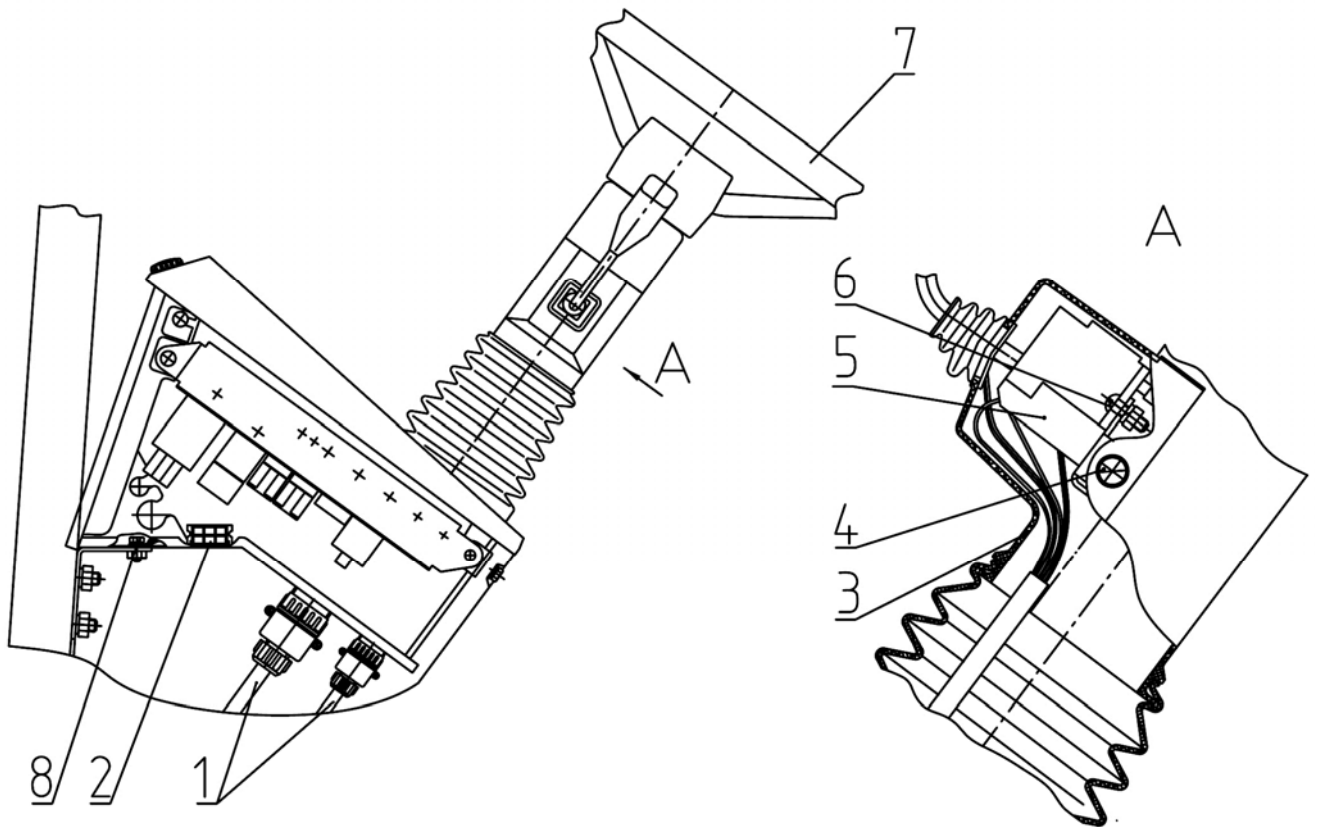
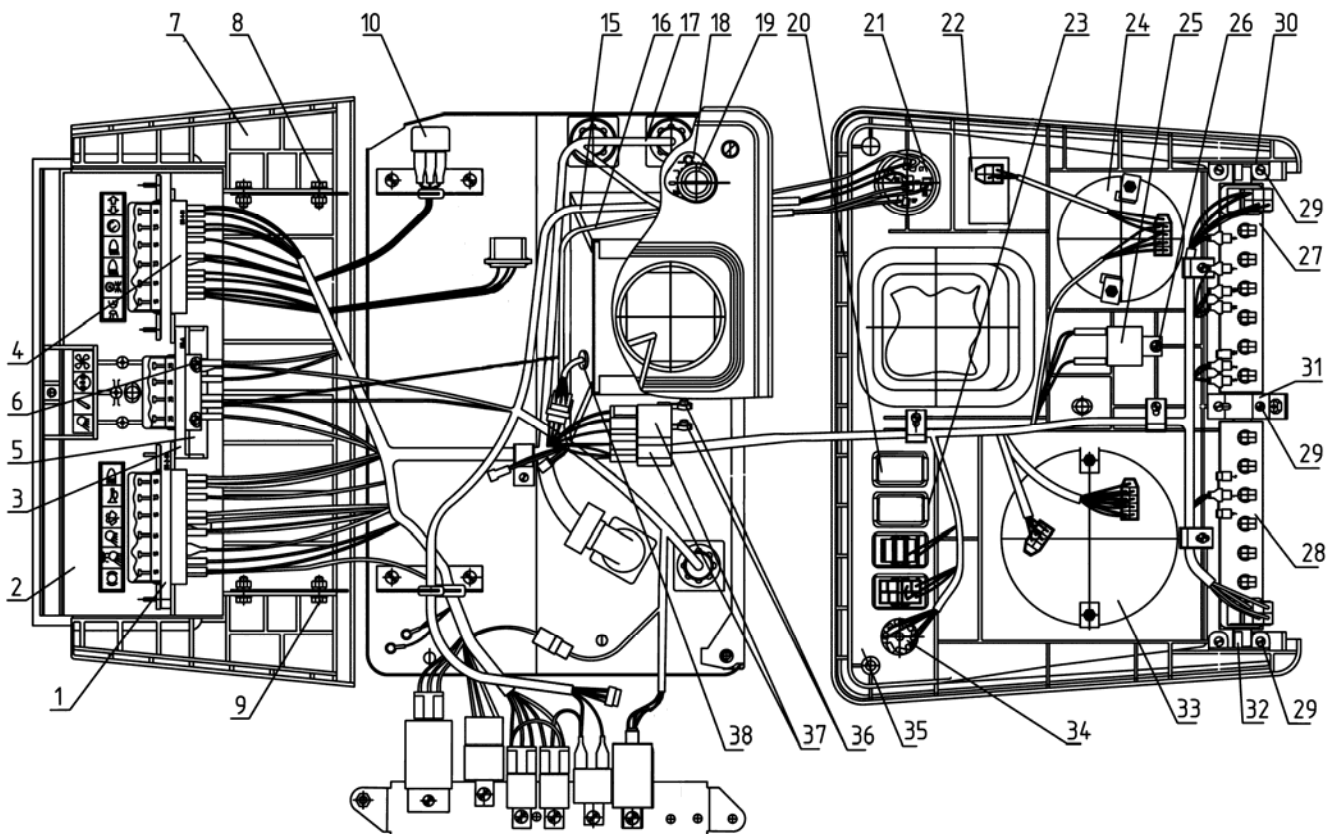

Figure 11.21
Figure 11.23
- b) disconnect from dashboard connectors 1 (Figure 11.21) on engine and transmission;
- d) arrange the dashboard as shown in figure 11.23.
Replacing other components see (Figure 11.23);
d) to replace relay 10 (Figure 11.23) of manual brake lamp, disconnect from it wires and replace relay.
r) to replace the under-driving wheel switch 5 (Figure 11.21), remove bushing 38 (Figure 11.23), disconnect harness of switch from dashboard harness and replace the switch.
- b) disconnect from dashboard connectors 1 (Figure 11.21) on engine and transmission on the basis of dashboard;